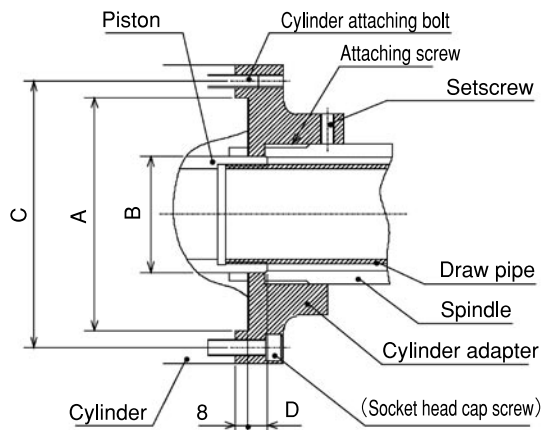

Fig. 10 Cylinder adapter attaching part
- Bring the cylinder as close to the lathe spindle support as possible. The attaching method of the cylinder adapter and the measuring method of run-out are illustrated in the drawings below. (Fig. 10, Table 9)